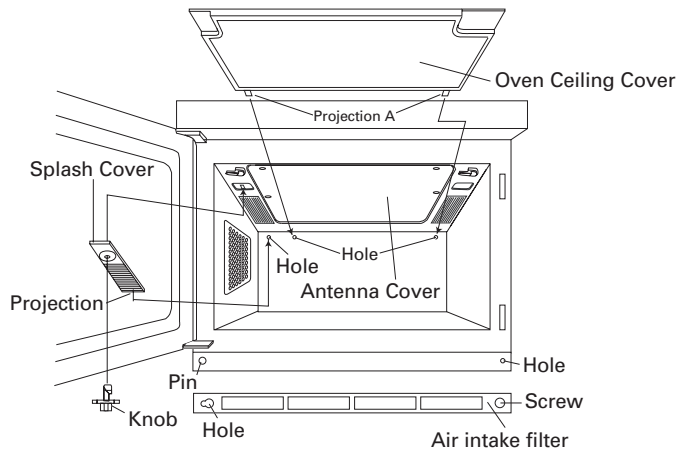
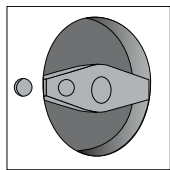
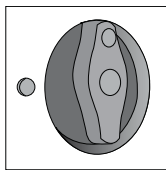

Fig.2
Fig.3
Fig.4
Remove the splash cover as shown in Fig. 2. Wash in a mild detergent solution. **Don't use detergent with orange oil**, as the splash cover may melt.
Remove the oven ceiling cover as shown in Fig. 2 and separate the frame from the cover.
Remember to unplug the power cord. Turn the 2 tabs holding the oven ceiling cover to the oven cavity ceiling as shown in Fig. 2, then gently pull the cover downwards to separate from the oven cavity ceiling. Then separate the cover from the frame. It is held in place by 4 catches.
Remember to unplug the power cord. Turn the knob holding the splash cover to the ceiling of the oven as shown in Fig. 3 and remove it from the ceiling of the oven.
Remember to unplug the power cord. Replace the cover in the frame. Insert projection A (2) into the 2 holes in the rear cavity wall and then insert projection B (2) into the 2 holes in the oven cavity ceiling as shown in Fig. 2. Then slide the tabs in place.
Remember to unplug the power cord. Then insert the knob into the hole of splash cover as shown in Fig. 4 and turn it as shown in Fig. 3. Insert the splash cover projection into the hole in the rear cavity wall as shown in Fig. 2 and then replace the knob in the hole through the splash cover. Turn knob as shown in Fig. 4 to hold the splash cover in place.